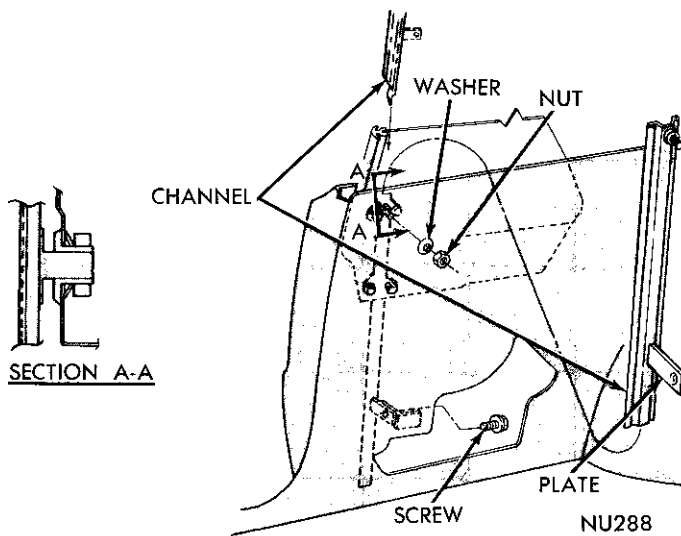
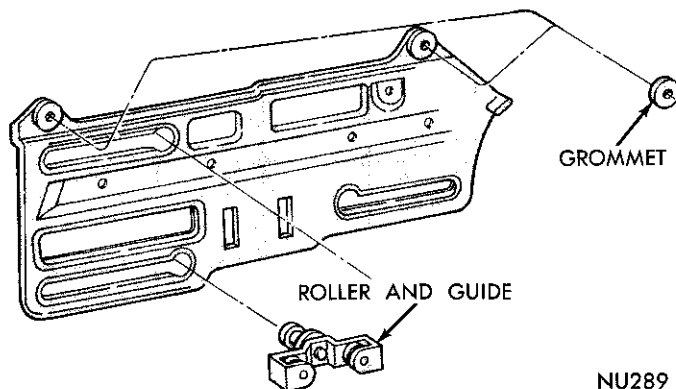
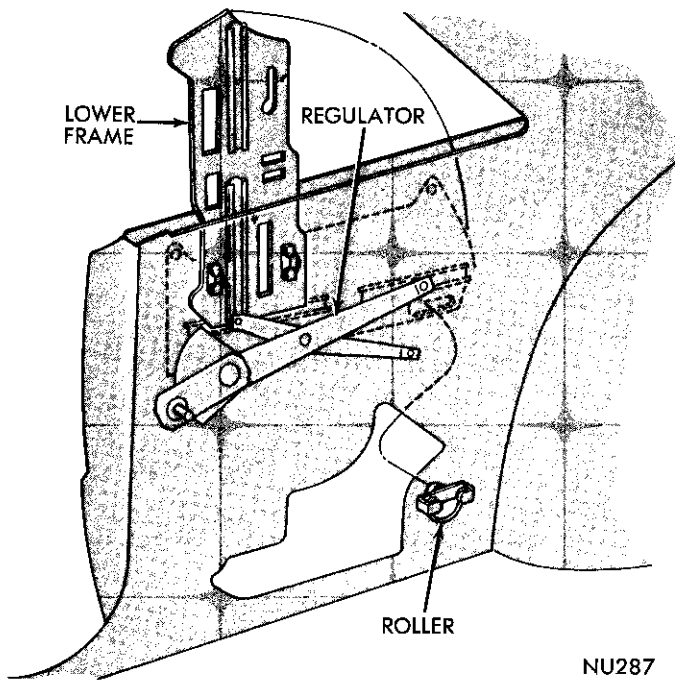

Fig. 73—Front Track Assembly
Fig. 74—Glass Lower Frame Assembly
Fig. 76—Glass Lower Frame Replacement
(1) Remove nut and washer from sleeve nut at upper end of track (Fig. 73).
(2) Remove track lower plate to support screw.
(3) Push track inward and move track and roller assemblies rearward to disengage rollers from glass lower frame.
(4) Remove track and rollers out of panel through large access hole.
(5) Remove roller assemblies from track (Fig. 74).
- (1) Position roller and guide assemblies on track.
- (2) Insert track assembly in quarter panel.
- (3) Position roller assemblies into slots of glass lower frame (Fig. 74).
- (4) Insert sleeve nut on upper end of track into hole of inner panel (Fig. 73).
- (5) Align track lower plate to support and secure with screw.
- (6) Place spring washer, concave side facing outboard, on track upper sleeve nut and install retaining nut.
- (1) Position roller assembly on track and insert assembly into quarter panel through large access opening.
- (2) Position roller assembly into slot of glass lower frame (Fig. 74).
- (1) Inspect glass lower frame to be sure grommets are installed at the upper outer holes (Fig. 74).
- (2) Insert roller and guide assemblies into lower frame front upper and lower slots.
- (3) Slide front end of lower frame into panel and engage front of lift channel to slide of regulator front arm (Fig. 76).
- (4) Turn frame to normal position and engage rear channel to regulator rear arm slide.
- (5) Position roller and guide assembly, on rear track, into rear slot of lower frame.
- (6) Install rear track assembly on inner panel.
- (7) Install glass assembly.